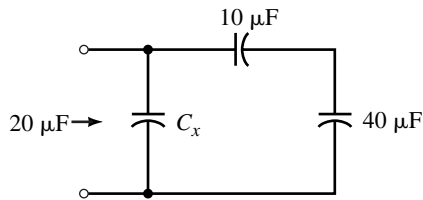

FIGURE 10–34
31. For Figure 10–35, determine C_3 and C_4 .